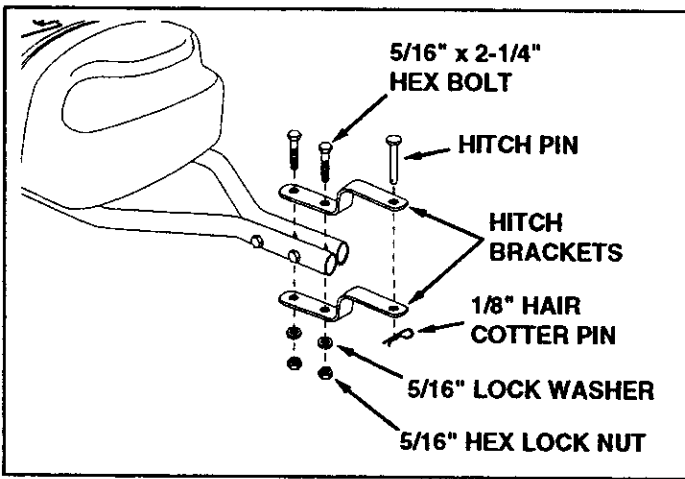

FIGURE 4
- Assemble the two hitch brackets to the front of the hitch tubes using two 5/16" x 2-1/4" hex bolts, 5/16" lock washers and 5/16" hex lock nuts. **Do not tighten yet.** See figure 4.
- Assemble the hitch pin to the hitch brackets and secure it with the 1/8" hair cotter pin. See figure 4.
- **Tighten** the two bolts which fasten the hitch brackets to the hitch tubes. See figure 4.